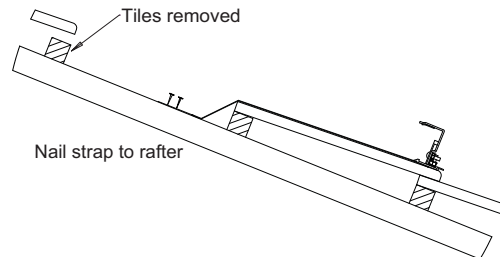

Figure 19 - Mount Lower Collector Rail
- Attach the collector mounting straps to the rafter or truss under the tiles as shown in **Figure 19**.